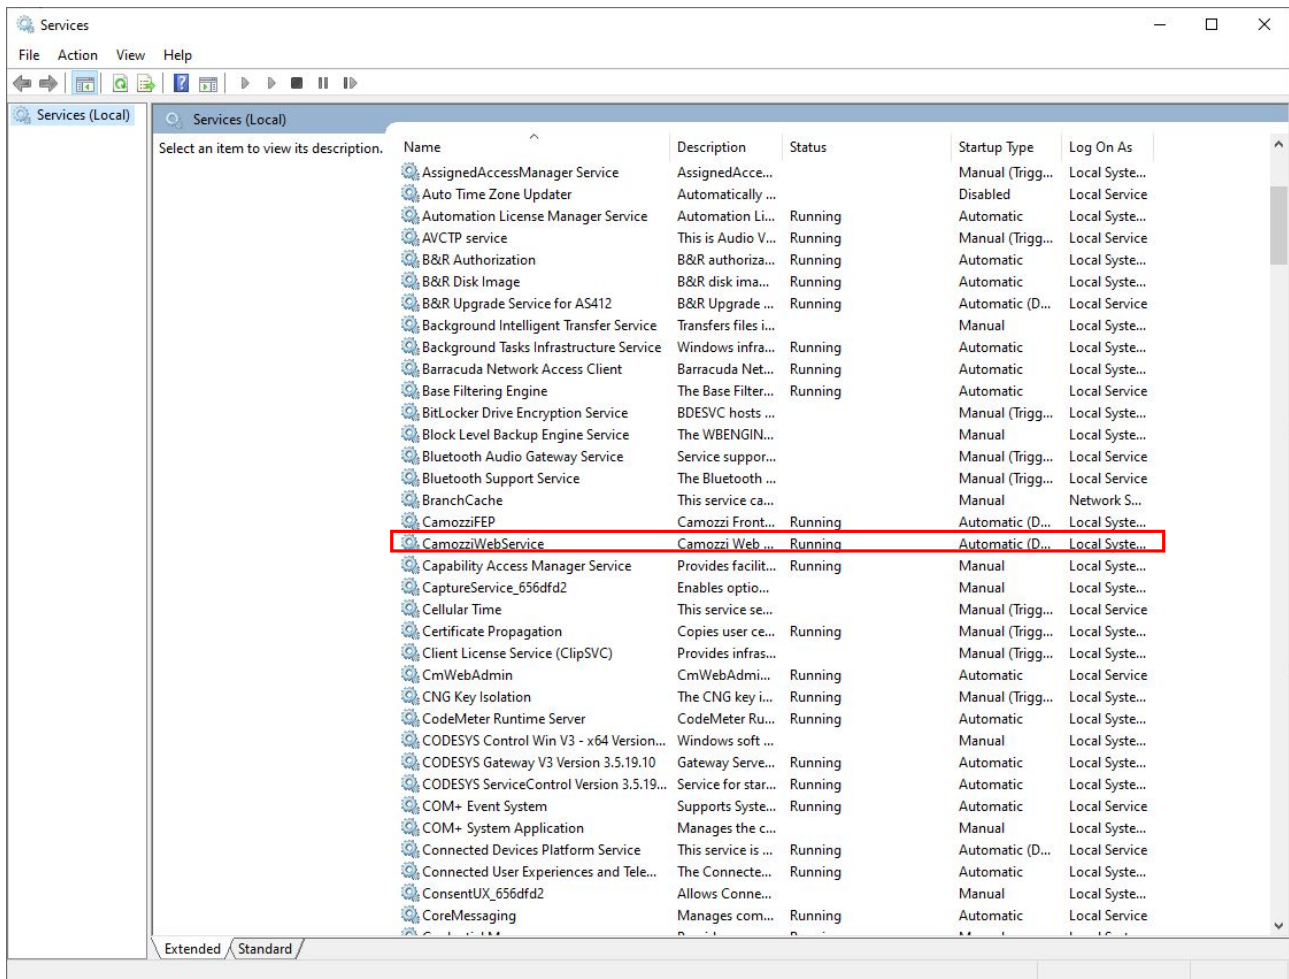

Figure 8.7: CamoZZiWebService Service
❶ Web Service: If the connection is not present, access the services window and verify that the "CamoZZiWebService" status is running (Figure 8.7).
- **Unable to contact the login server:** Access the services window and verify that the "CamoZZiWeb-Service" status is running, as shown in Figure 8.7. If it's not running, you can manually force it by accessing the same window with administrator privileges.